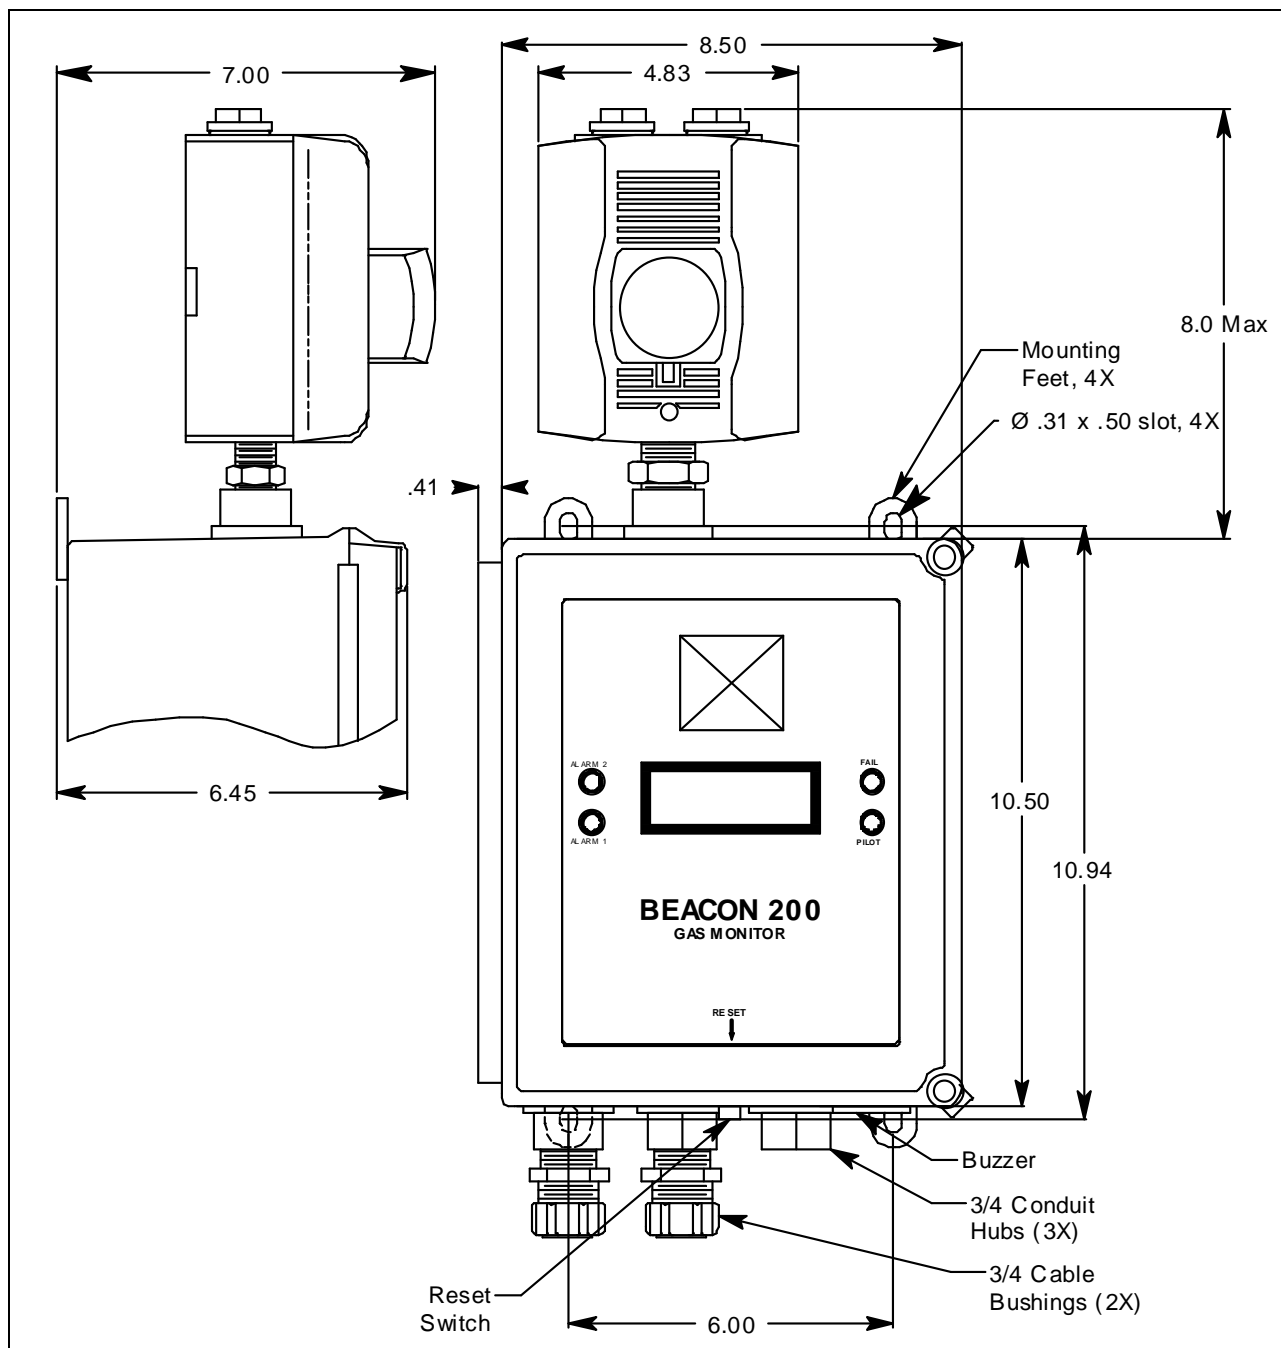

Figure 5. Beacon 200 Outline and Mounting Dimensions
4. The Beacon 200 is shipped with the mounting feet positioned behind the housing. Loosen the screws that secure the feet to the housing, rotate the feet to their mounting position (as shown in Figure 5), then tighten the screws.
5. Insert 1/4 in. or 5/16 in. screws through the slots in the mounting feet at each corner of the housing to secure the housing to the mounting surface (see Figure 5).